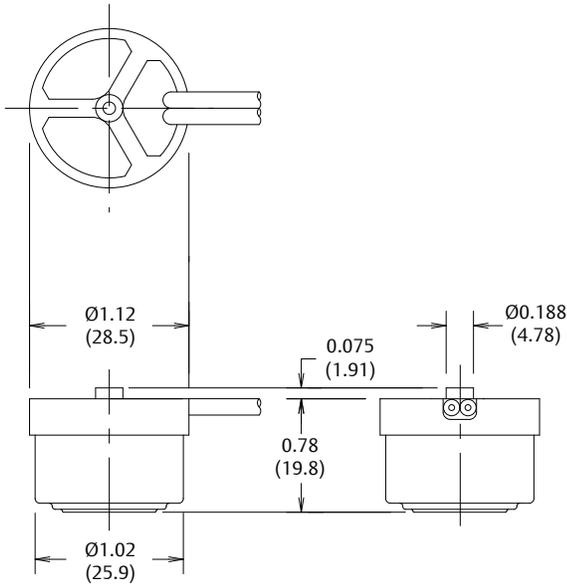

Figure 1
**M** – Switchcase designed to accept customer clamp (*see figure 1*)
**No Mounting Bracket** – The 37T may be specified without a mounting bracket. The 37T (see figure 1) is available with a polyethylene cap or a phenolic centerpost which may be used for a customer’s bracket. The phenolic centerpost may be customized to meet unique requirements. mount configurations. Airstream mounting is typically used in applications where the temperature being sensed is contained within an enclosure such as an air duct or heater box. An optional surface mount configuration is available for applications where the temperature being sensed is the actual mounting surface. Exposed or enclosed bimetal disc mounting versions may be specified.